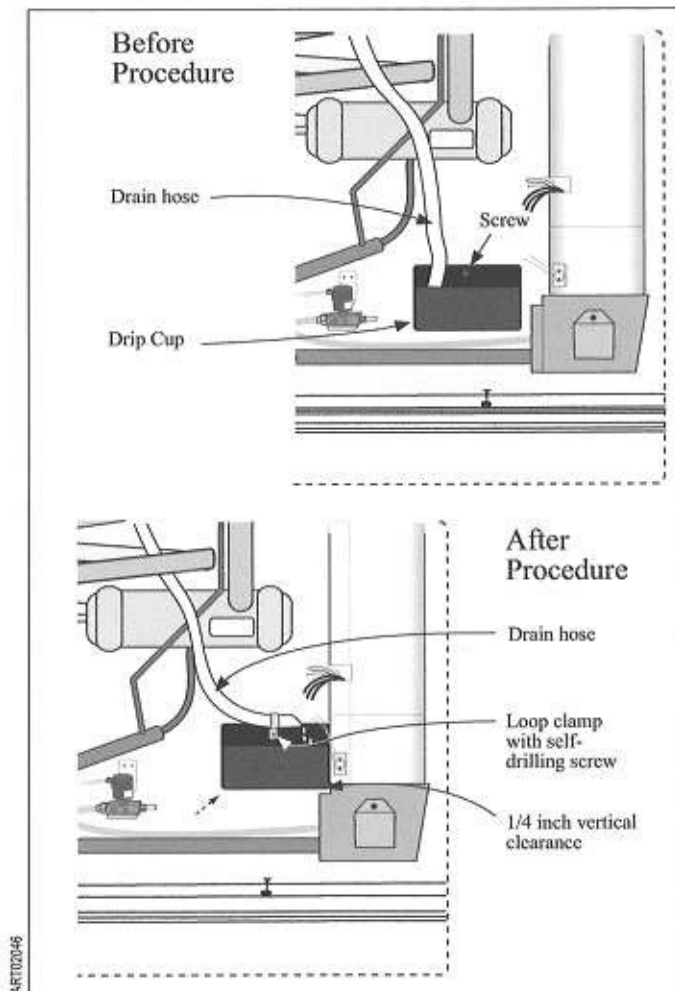

Figure 7. Drain Cup and Hose, Before and After Procedure
1. Remove the single screw holding the drip cup in its original position at the rear of the refrigerator. Refer to Figure 7.